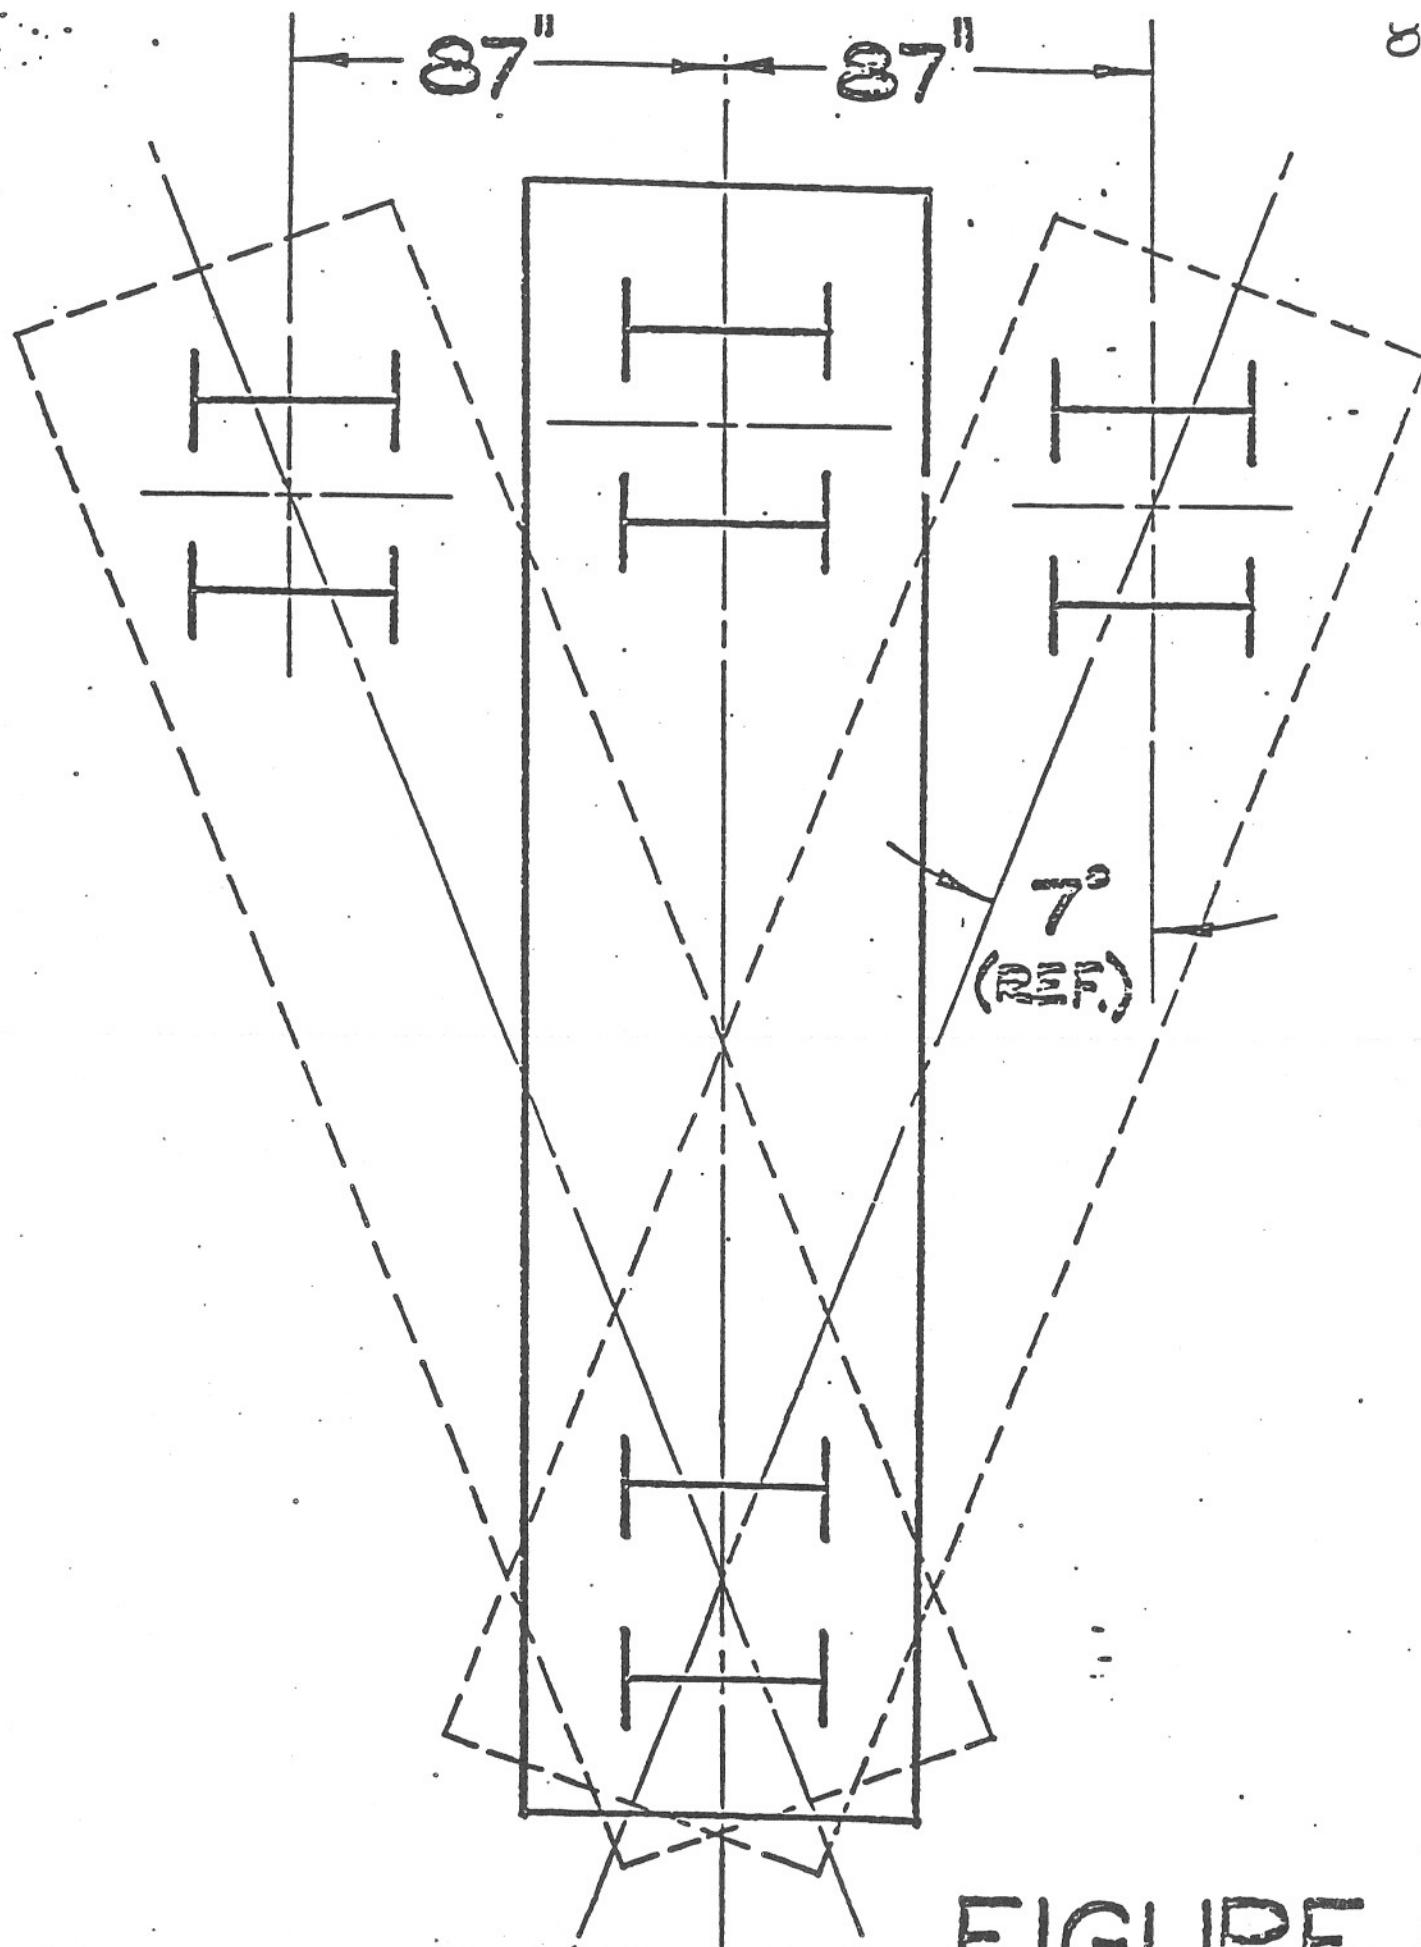

FIG 1 DE
3.3 Move the transfer table through a distance sufficient to simulate the truck yaw on a 23° curve. For cars with 59 feet 6 inches truck centers, the displacement of the transfer table must be 87 inches. For cars with other truck centers, the distance to move the transfer table must be calculated. Refer to Figure 1.